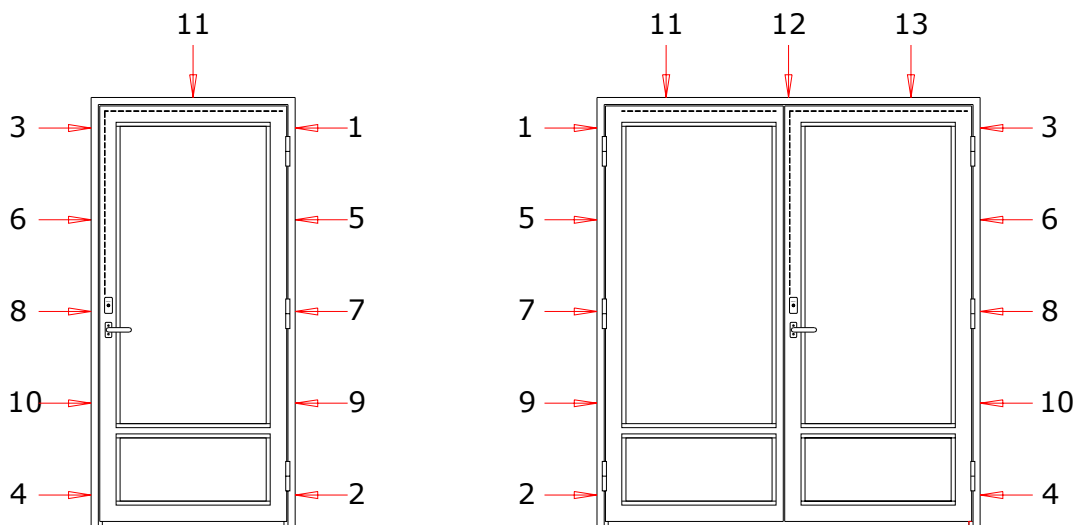

Figure 2
- Level the hinge side of jamb and drill through the jamb fixing aperture for upper dowel no.1 (Figure 2) at minimum to the depth of 80 mm (in case of bar). Fix dowel in the aperture through the jamb, fixing the dowel beforehand with screw end. Then, using the chuck key, turn the screw into such depth that gap between construction aperture and jamb would be equal on both sides. Then prepare a block of non-flammable material (e.g. gypsum, steel) with thickness 10 mm, width 45 mm and length maximum 100 mm and place it between jamb and wall against fixing screw. Then tighten the screw. Do the same with lower aperture of the hinge side 2 and opposite fixing apertures 3 and 4. Check vertical position of lateral surfaces of jamb with level.